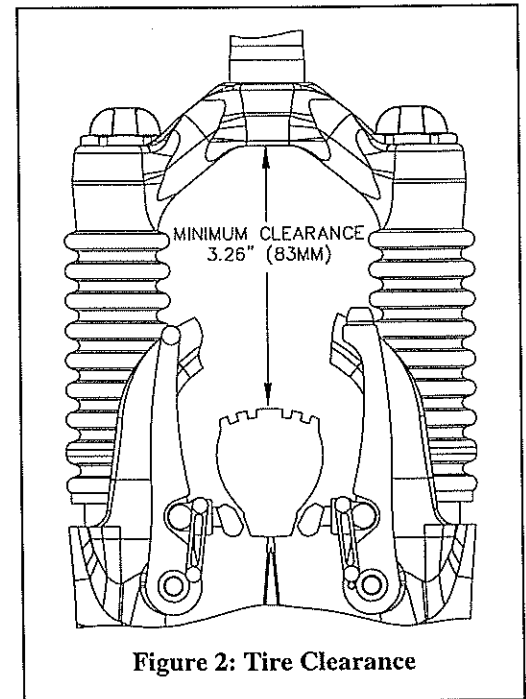

Figure 2: Tire Clearance
13. Check tire clearance with crown. Figure 2.
WARNING: When installing the wheel or any new tire, check the minimum tire clearance. Measure from the highest point on the tire to the bottom of the crown. The minimum clearance allowed 3.26" (83mm) for 80mm travel fork models. Any less clearance can result in accident resulting in serious injury or death. See Figure 2